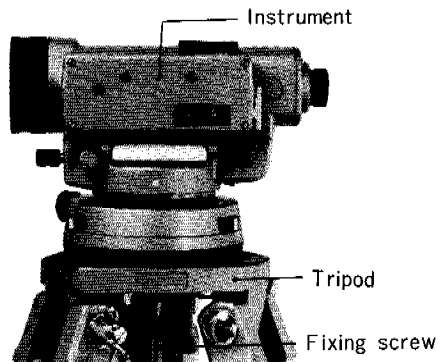

Fig. 1
- 2) Place the tripod its top is as level as possible, mount the instrument on it, and fasten it securely with fixing screw. (See fig. 1)